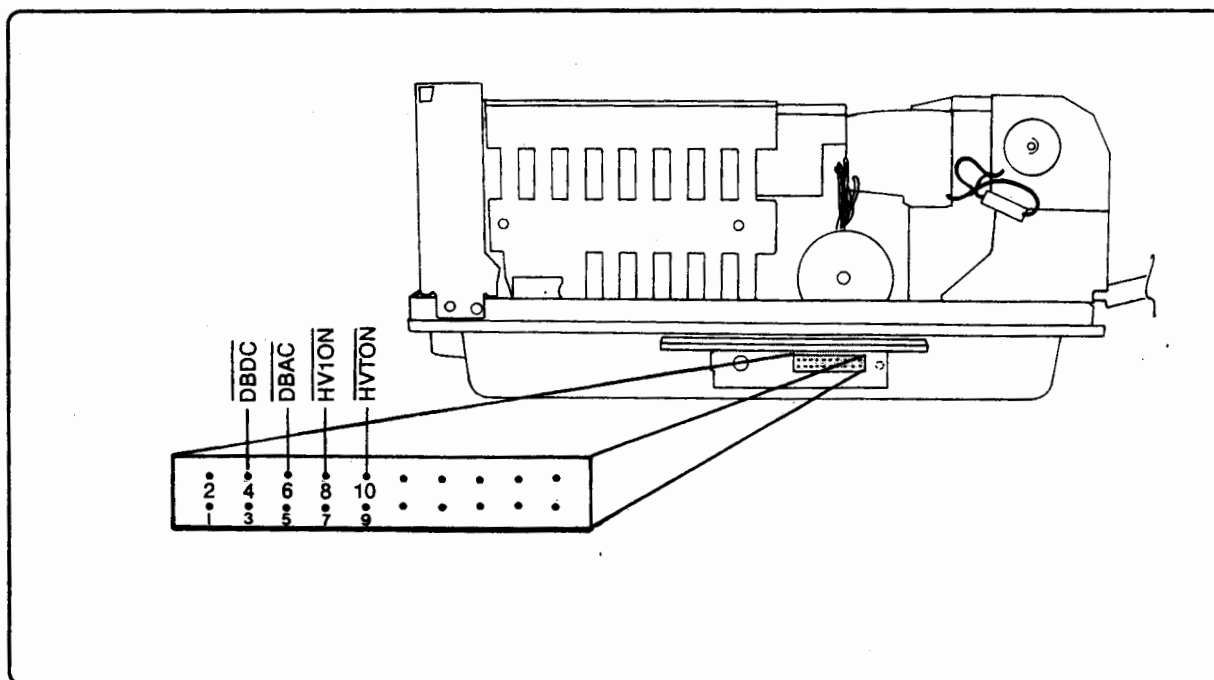

Figure 7-30. J210 Test Points
1. Using a voltmeter and frame ground as a reference, measure the voltage level at J210-8 (Test Connector, see Figure 7-30) on the DC Controller PCA while performing a Test Print. The voltage level should switch between +18.0 Vdc (disabled state) and 0.0 Vdc (enabled state) one second after the print cycle begins. If the voltage at J210-8 does not switch, replace the DC Controller PCA. If the signal line is being switched but the Primary Corona does not appear to be functioning (i.e., producing black pages), replace the EP-S Cartridge followed by the High-Voltage Power Supply Assembly.
1. Using a voltmeter and frame ground as a reference, measure the voltage level at J210-6 (Test Connector, see Figure 7-30) on the DC Controller PCA while performing a Test Print. The voltage level should switch between +18.0 Vdc (disabled state) and 0.0 Vdc (enabled state) three seconds after the print cycle begins. If the voltage at J210-6 does not switch, replace the DC Controller PCA. If the signal line is being switched but the developer AC bias does not appear to be functioning (i.e., producing very faint print), replace the EP-S Cartridge followed by the High-Voltage Power Supply Assembly.
1. Using a voltmeter and frame ground as a reference, measure the voltage level at J210-4 (Test Connector, see Figure 7-30) on the DC Controller PCA while initiating the printer Self Test. The voltage level should switch between +18.0 Vdc (disabled state) and 0.0 Vdc (enabled state) one second after the print cycle begins. If the voltage at J210-4 does not switch, replace the DC Controller PCA. If the signal line is being switched but the developer DC bias does not appear to be functioning (i.e., producing extremely faint or white pages), replace the EP-S Cartridge followed by the High-Voltage Power Supply Assembly.
- Using a voltmeter and frame ground as a reference, measure the voltage level at J210-10 (Test Connector, see Figure 7-30) on the DC Controller PCA while initiating the printer Self Test. The voltage level should toggle between +18.0 Vdc (disabled state) to 0.0 Vdc (enabled state) two seconds after the print cycle begins. If the voltage at J210-10 does not toggle, replace the DC Controller PCA. If the signal line is being switched but the Transfer Corona does not appear to be functioning (i.e., producing a clear image on the drum but faint or white pages), replace the High-Voltage Power Supply Assembly followed, if necessary, by the Transfer Corona Assembly.